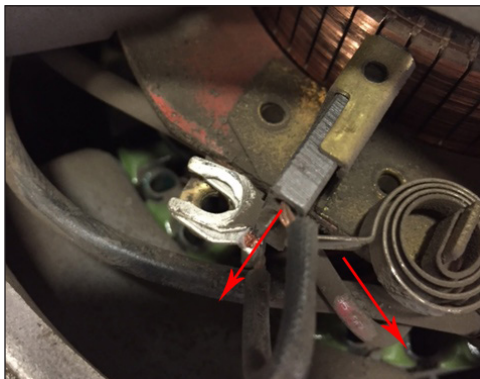

FIG. 11
4. Pull back spring and remove brush (Figure 11).
2. Unplug light located under the cover (Figure 11).
3. Remove (4) bolts – 2 on the side, 2 on the top – on cover.
5. Remove (4) screws – 2 on the top near controls, 2 on the bottom – from control panel.